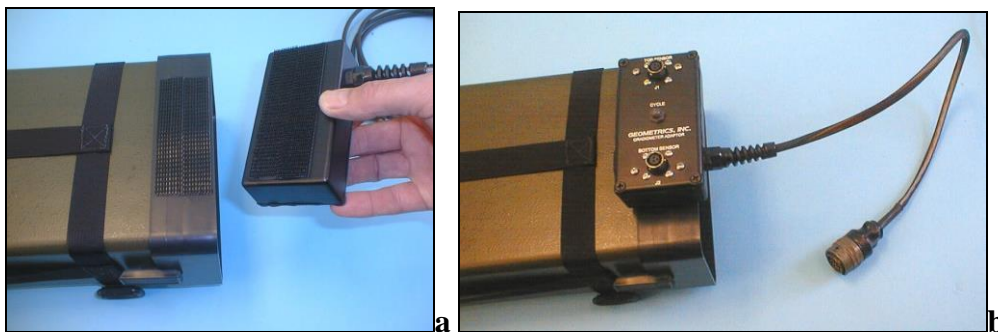

Figure 15. Attach the gradiometer switch box
- 6) The sensor cables may now be connected to the Remote Start Switch box, and the Remote Start Switch box may be connected to the G-857 front panel connector. As shown in Figure 15, attach the Velcro strip to the top of the G-857 black front panel bezel. Mount the Remote Start Switch box to this mating Velcro strip.